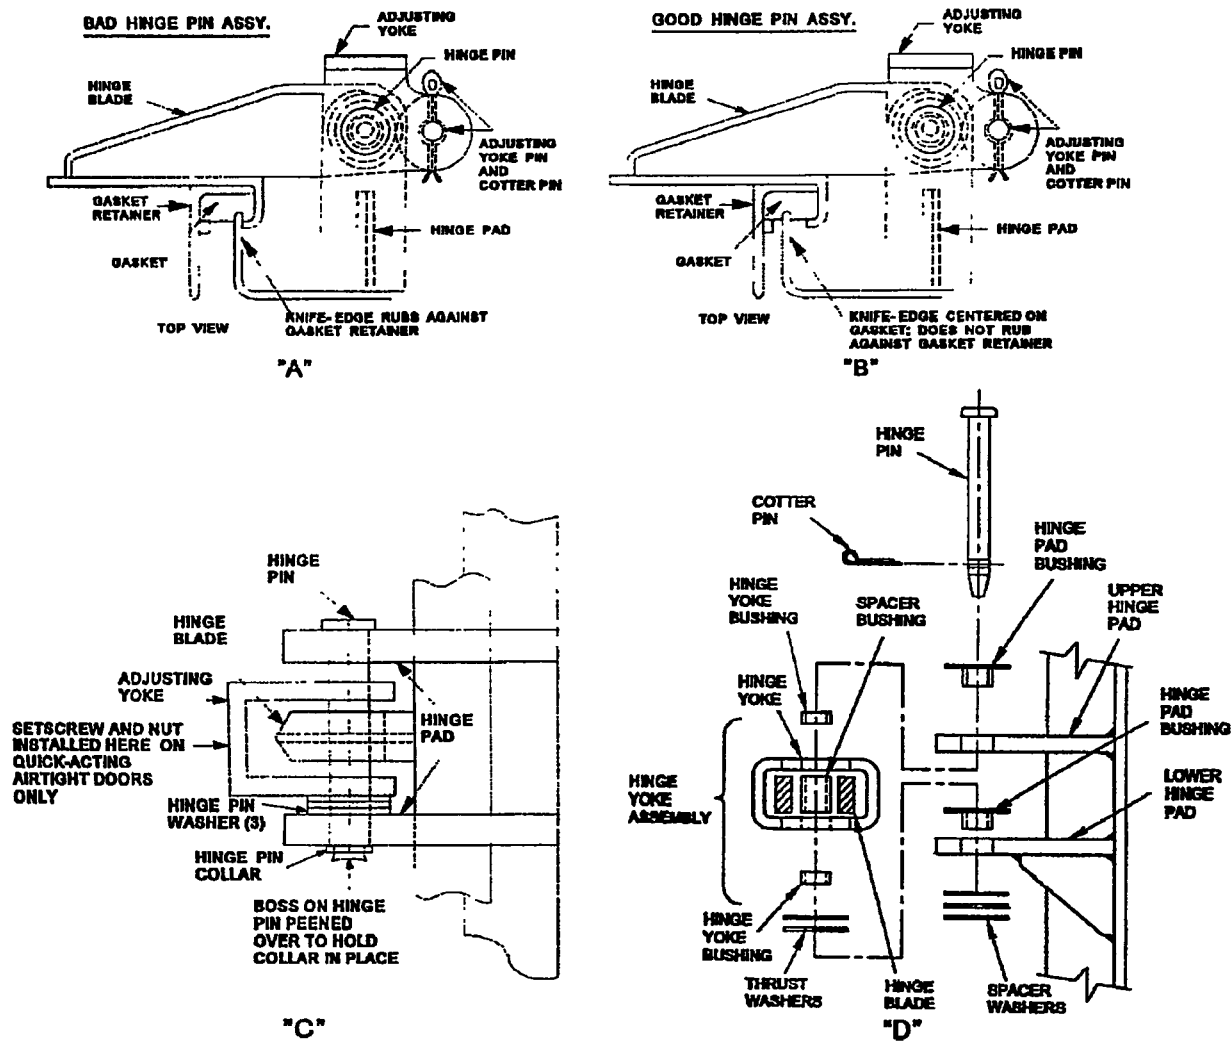

Figure 600-2.27. Hinge Pin Assemblies
- d. Visually inspect the hinge sleeves and hinge pins (on doors without Machinery Alteration (MACHALT) 167-31006 Engineering Change Proposal (ECP) 518 installed) for wear. Visually inspect the hinge pad bushings, hinge yoke bushings, spacer bushing, and hinge pin (on doors with MACHALT 167-31006 (ECP-518) installed) for wear. With the door opened, grasp the door from the hand lever side and push it toward the hinged side. The door should not give more than approximately 3/16 inch. If it does, either the hinge pins and/or washers are worn, or the holes for the hinge pins have become enlarged. Do not confuse hinge pin wear with normal play in the hinge blades. Another indication of hinge pin wear is if the metal channel surrounding the gasket on the door side is rubbing against the knife-edge, or if the door panel rubs one or more side dogs when opening or closing. (See figure 600-2.27, "A"). A good hinge and alignment are illustrated in figure 600-2.27, "B". Replace the hinge pin washers and/or pins (on doors without MACHALT 167-31006 (ECP-518) or MACHALT 167-31011 (ECP-538) installed), or replace the hinge pad bushings, hinge yoke assembly, thrust washers, yoke pin spacer, and hinge pin (on doors with MACHALT 167-31006 (ECP-518) or MACHALT 167-31011 (ECP-538) installed), if any of the following conditions exist:
4. The hinge pin washers (on doors without MACHALT 167-31006 (ECP-518) or MACHALT 167-31011 (ECP-538) installed) are worn thin to approximately 1/32 inch. New washers are 1/16 inch in thickness. See figure 600-2.27, "C". The thrust washers or the flange on the hinge pad bushings (on doors without Figure 600-2.27. Hinge Pin Assemblies MACHALT 167-31006 (ECP-518) or MACHALT 167-31011 (ECP-538) installed) are worn thin to approximately 1/32 inch. New thrust washers and the flange on new hinge pad bushings are 1/16 inch in thickness. See figure 600-2.27, "D".